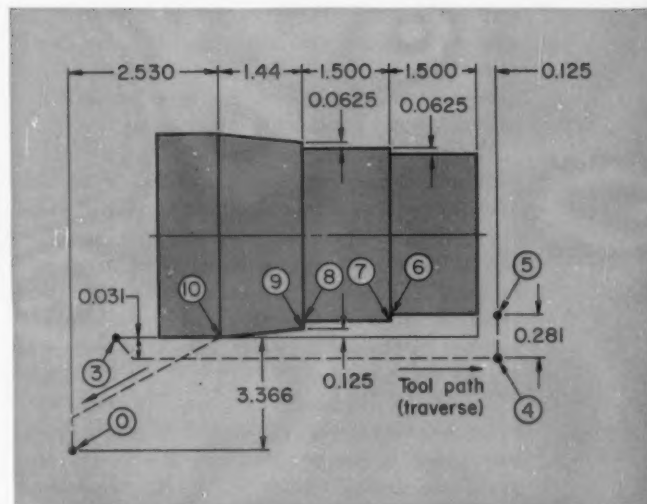

Fig. 5. Program analysis for a typical workpiece, made before the actual tape program is written.
**Tape Programming:** For more complex workpieces, careful planning and analysis are required prior to listing blocks of instructions. A drawing, such as shown in Fig. 4, aids in visualizing workpiece geometry and the sequence of cuts to be made. Working from such a drawing, a program (the list of instruction blocks) is written out step by step. The completed program for the workpiece of Fig. 4 is shown in Fig. 5. The instructions actually necessary for machining the workpiece lie to the right of the double vertical line. Columns to the left of the double vertical line are program planner notes, to assist in analyzing the machining sequence. Several